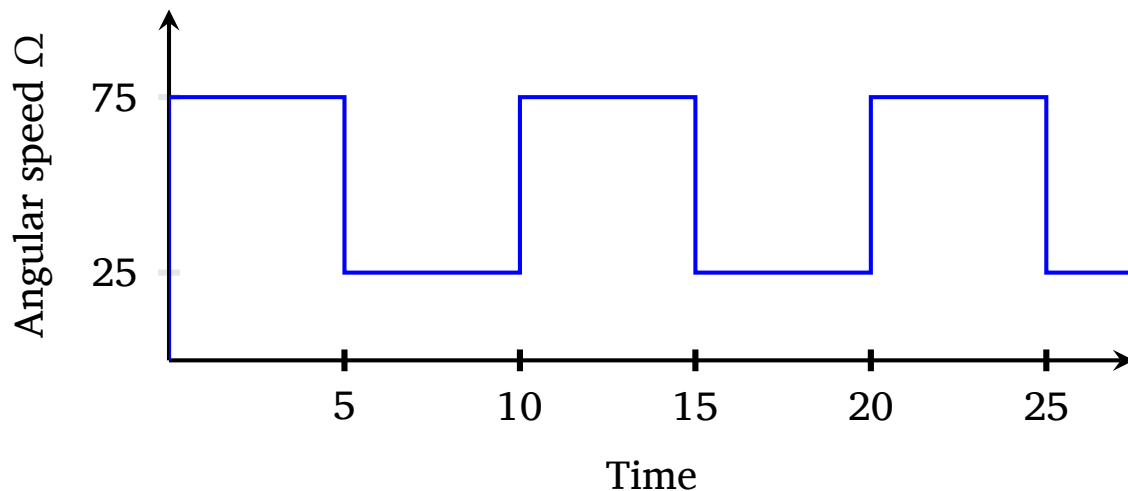

Figure 3 Square wave with frequency 0.1 Hz.
We want to drive the QNET DC MOTOR in the following square wave form Figure 3.
1. In MATLAB generate and plot a signal that mimics the shape of the square wave presented in Figure 3.
3. Using these voltage values, generate a square wave input signal that will make the QNET DC MOTOR follow the square wave form in Figure 3. Simulate and plot the response of the transfer function $H(s)$ to this signal.